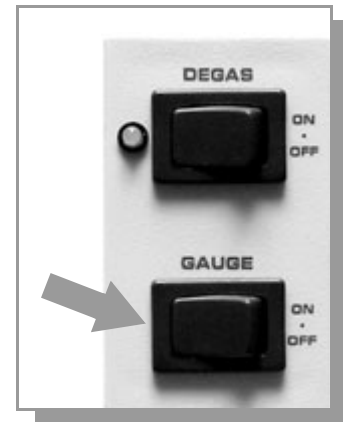

Figure 4-2 Micro-Ion “Momentary” On/Off Switch.
- Using the front panel Micro-Ion Gauge “momentary” GAUGE On/Off switch. See Figure 4-2.